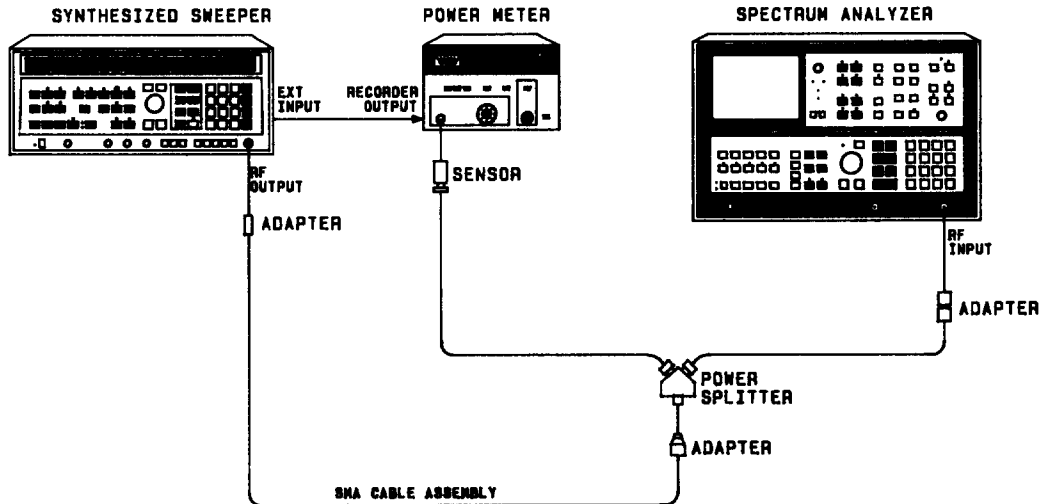

FIGURE 19. FREQUENCY RESPONSE TEST SETUP (60 MHz TO 2.5 GHz)
37. Connect equipment as shown in Figure 19. The RECORDER OUTPUT on the rear panel of the power meter is connected to the LEVELING EXT INPUT of the synthesized sweeper. One output arm of the power splitter is connected directly to the RF INPUT of the analyzer via the Type N to N adapter. The power sensor connects directly to the other splitter output.